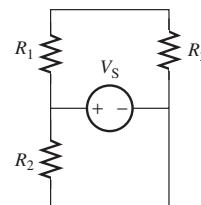

FIGURE P3.23 Circuit for Problem 3.23.
- 3.23 (A)** Find the voltage drop across all resistors in Figure P3.23.